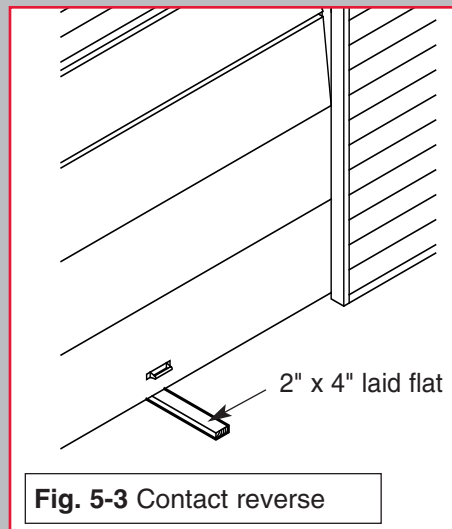

Fig. 5-3 Contact reverse
- Lay 2" x 4" board flat in center of doorway (Fig. 5-3).